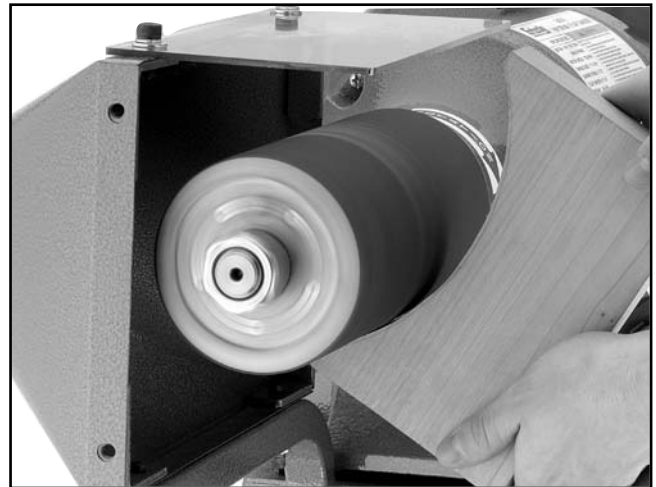

Figure 21. Drum sanding.
6. Once the sander has reached full speed, you can begin sanding the workpiece (**Figure 21**). *Note—Move the workpiece back and forth across the entire sanding sleeve surface to ensure maximum sanding sleeve life and to achieve the best finish results.*